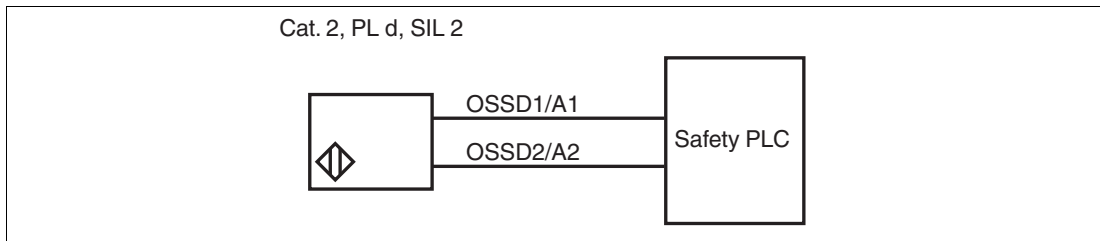

Figure 4.3 Example of a safety loop via the OSSD1 and OSSD2 outputs
- If you are using the sensor in a safety loop for category 2, PL d, SIL 2, connect the sensor via the OSSD1 and OSSD2 outputs, see Figure 4.3. Observe that the OSSD1 and OSSD2 outputs can have different switching states during the discrepancy time, see chapter 3.2. If the difference between the switching states of the outputs occurs longer the discrepancy time, this is to be evaluated as an fault. Take appropriate measures.